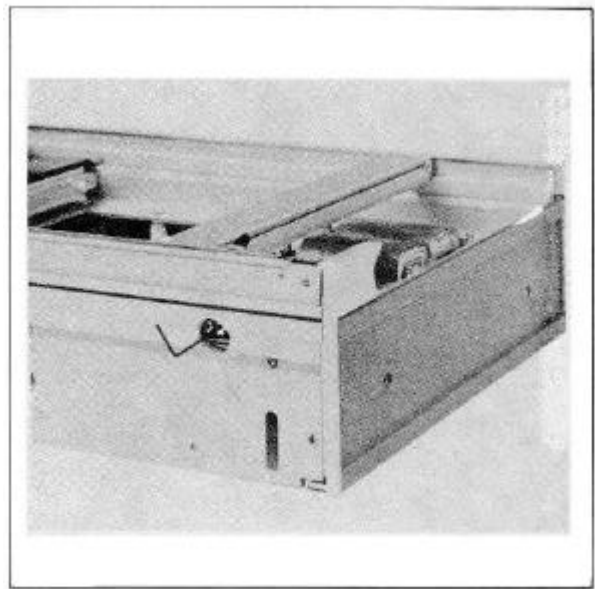

FIGURE 5-16. Y-AXIS BACKLASH ADJUSTMENT (GEAR ADJUSTING SCREW)
- d. Move pen carriage to left until the gear adjusting setscrew at rear of pen motor block is in line with large access hole in rear wall. See Figure 5-16.